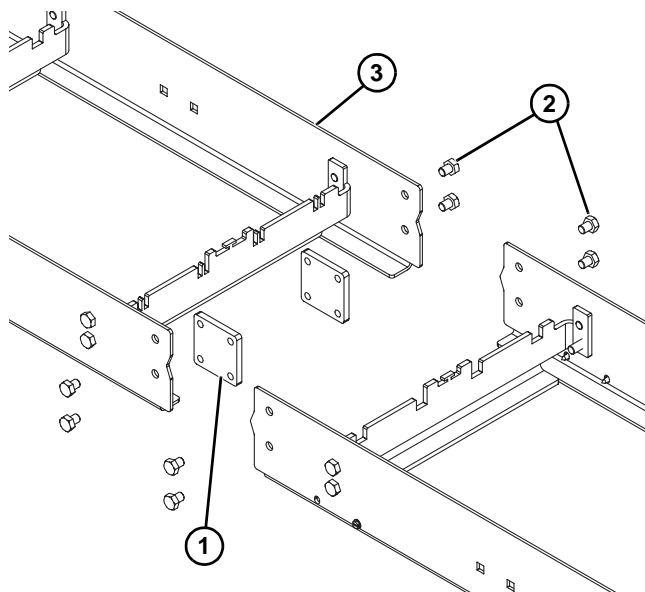

Figure 5
Typical connecting components (Figure 5).
2. Join both conveyor sections and install connecting plates (Figure 5, item 1) with four screws (Figure 5, item 2) on both sides. Tighten to 14-16 ft-lbs (19-22 Nm).